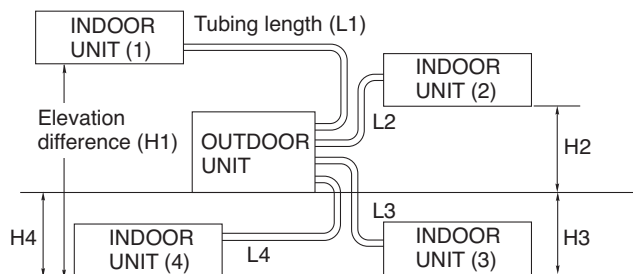

Fig. 3a
- install the unit within the maximum elevation difference (H1, H2, H3, H4) above or below the outdoor unit and within a total tubing length (L1+L2+L3, L1+L2+L3+L4) from the outdoor unit as detailed in Table 3 and Fig. 3a.